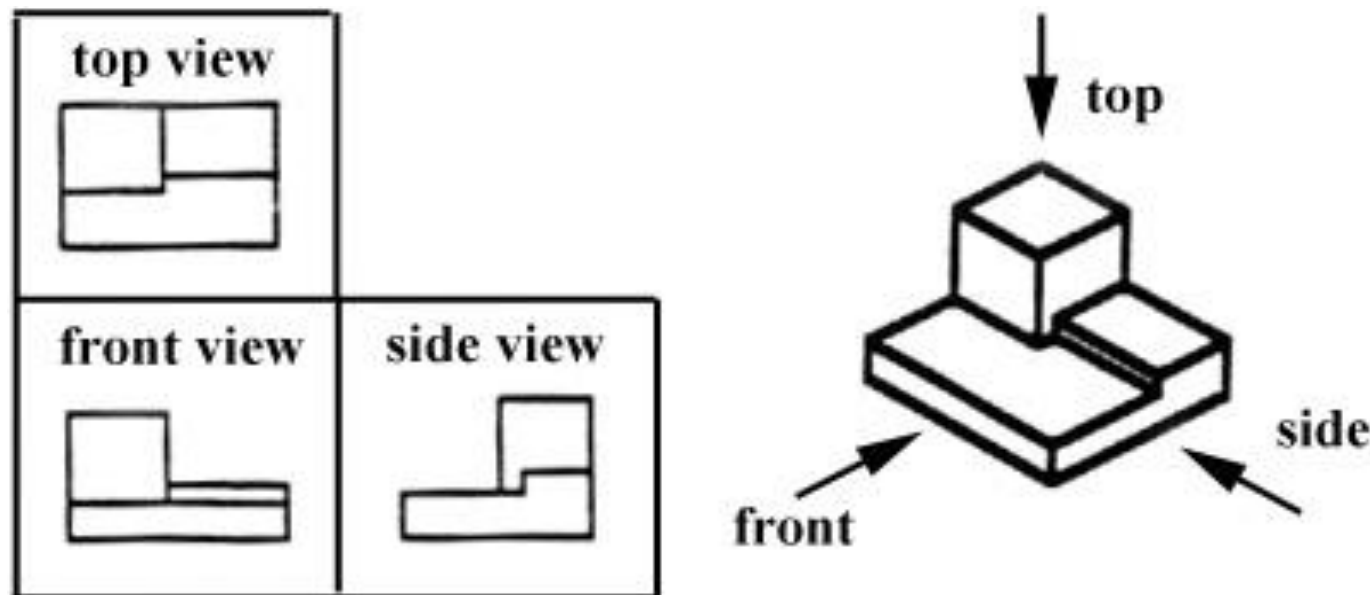

Figure 5 - A multiview drawing and its explanation
- Figure 5 shows how the three views appear on a piece of paper after unfolding the box.